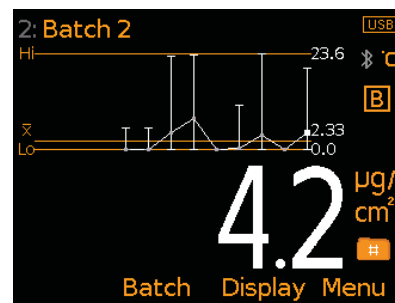

Fig. 4: Run Chart & Readings x1
- Run Chart** (Fig. 4); A line trend graph of the last 20 measurements which is updated automatically after each reading.